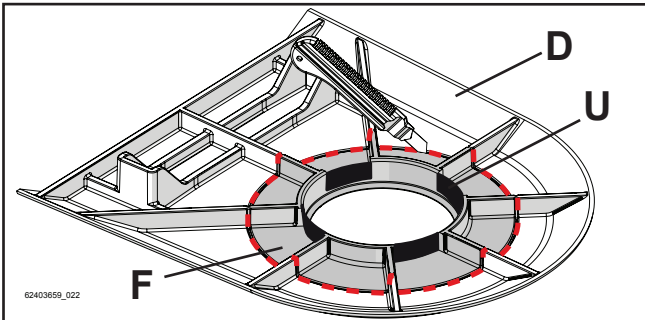

Figure 5-47
- If the appliance is equipped with a fumes discharge terminal, remove the area marked "F" (which can be identified using a pre-cut piece on the lower surface) from the gasket "D" with a cutter (fig. 5-47).
- If the appliance is equipped with a single fumes discharge terminal, remove the areas marked "U" from the gasket "D" with a cutter (fig. 5-47).